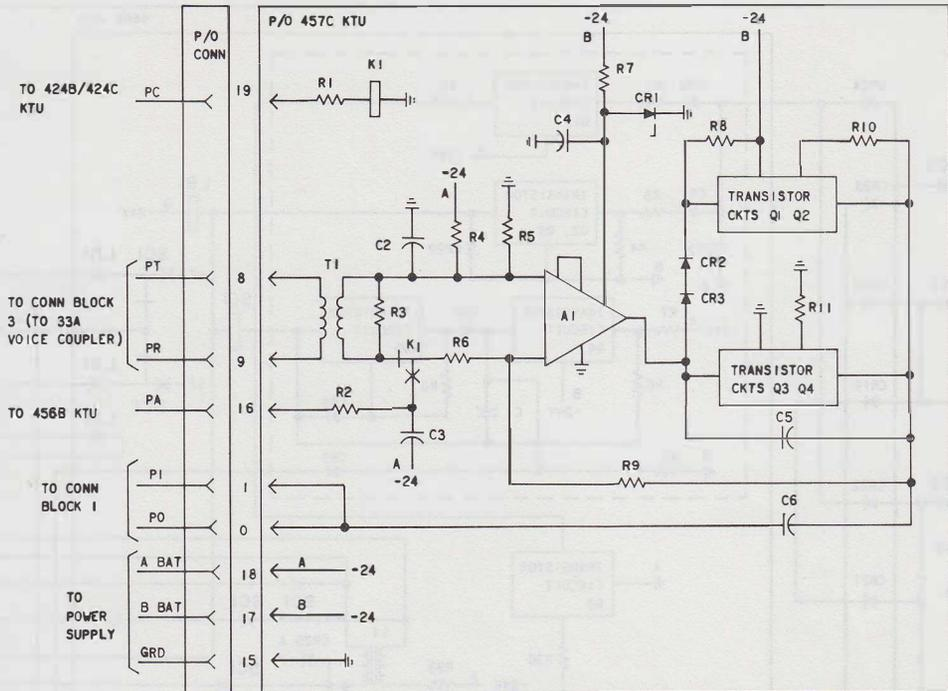

Fig. 19—Condensed Functional Schematic of 457C KTU (Paging Amplifier Circuit)
2.25 The 457C KTU (Fig. 19) is a 4-inch unit that contains the amplifier circuitry for paging and customer-provided background music. The customer-provided music source can be connected to the paging speakers when the paging circuit is not in use.